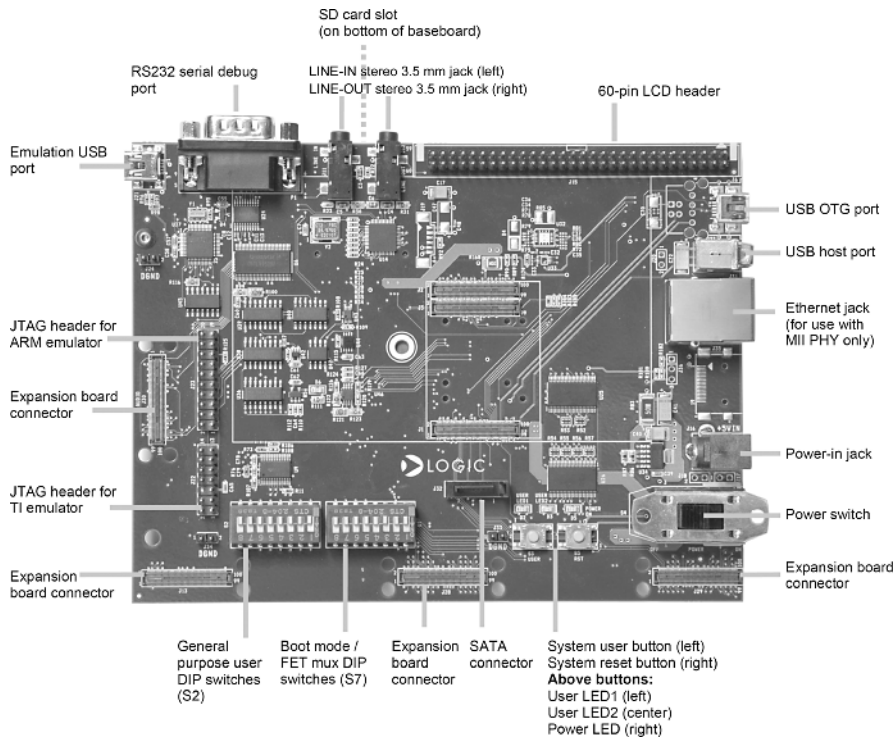

Figure 1.2 Logic PD Zoom OMAP-L138 eXperimenter baseboard (courtesy of Logic PD).
The eXperimenter makes a significant number of the OMAP-L138 interfaces available to the user, as shown in Figure 1.2. This book is concerned with the development of real-time digital signal processing (DSP) applications and therefore makes use of the DSP (C6748) side of the device and of the TLC320AIC3106 (AIC3106) analog interface circuit (codec) connected to the OMAP-L138's
- (1) Connect the eXperimenter board to the host PC using the USB cable provided. There are two mini-USB sockets on the eXperimenter. The socket used for connection to the host PC is *Emulation USB port* (J21), located adjacent to the 9-way D-type RS232 *serial debug port* (Figure 1.2).
- (2) Make sure that all the *Boot mode* DIP switches (S7) are OFF, except for DIP switches #5 and #8 that should be ON (Figure 1.2). This sets the appropriate *Boot Mode* (EMU Debug) for the use made of the eXperimenter in this book.
- (3) Connect a line level audio source, for example, the output from a PC sound card, to the LINE IN socket on the eXperimenter. Make sure that the output level from the source is sufficiently low that it will not damage the input circuits of the AIC3106 codec.
- (4) Connect either headphones or loudspeakers to the LINE OUT socket on the eXperimenter.
- (5) Connect the power supply provided to the eXperimenter board.